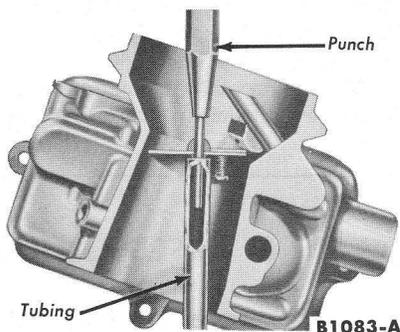

FIG. 8—Distribution Pin Removal
13. If it is necessary to remove the choke plate or shaft, drive the fuel distribution pin out of the shaft (Fig. 8).